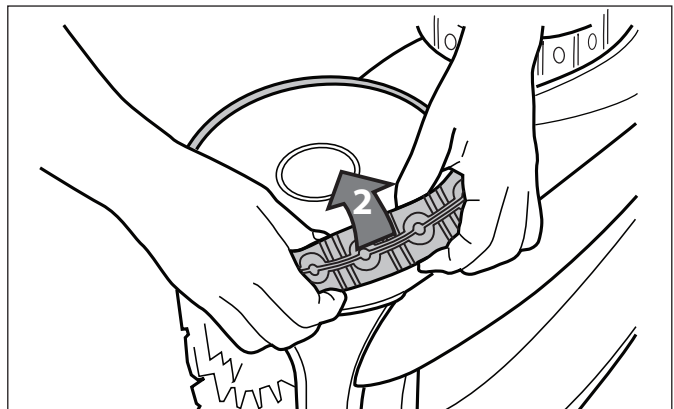

Figure 32. Remove the Old Tire
2. Remove the old tire (Figure 32).